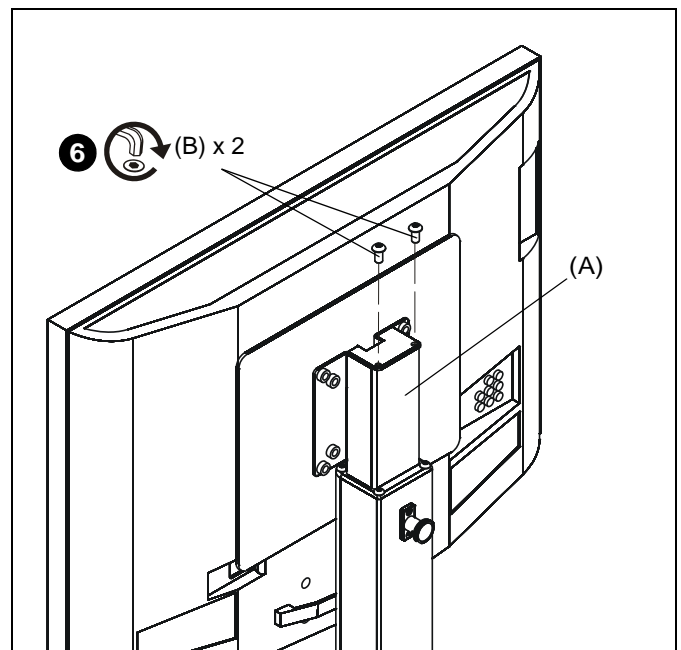

Figure 3
6. Install two 5/16-18 x 5/8" button head cap screws (B) through adapter bracket holes to secure adapter bracket to mobile cart or stand. (See Figure 3)